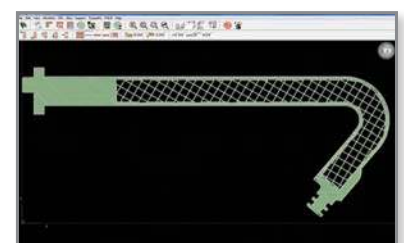

Figure 13: Resulting variable density part.
STEP 14: Select and delete the curves for all of the reference features by using the **Delete** operation located in the edit drop-down menu (Figure 13).